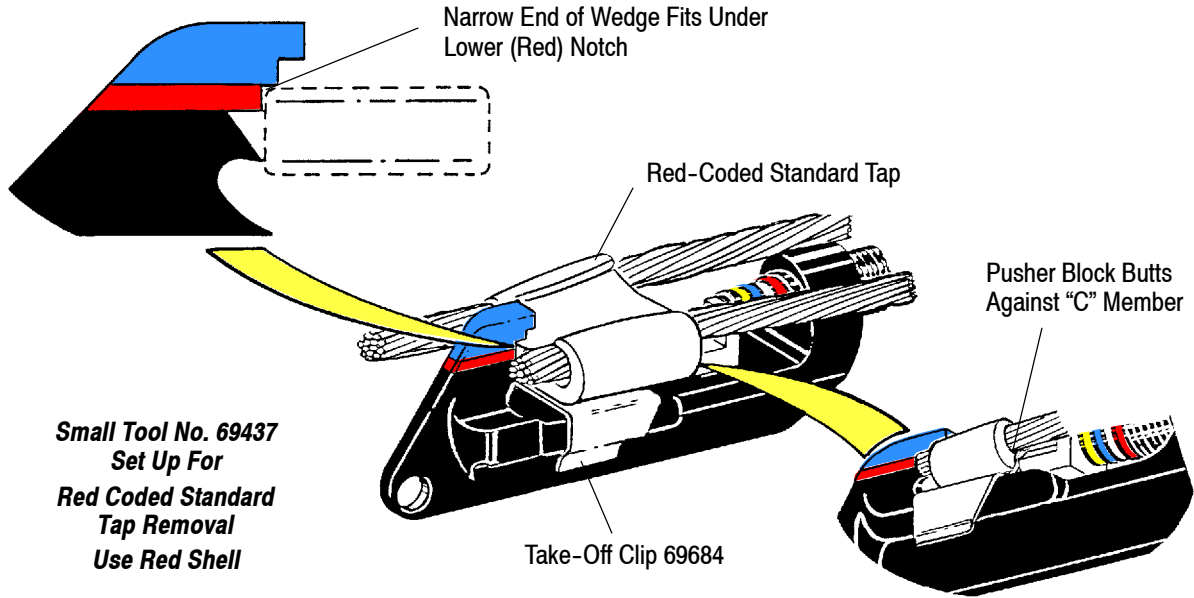

Figure 31
-  Use take-off clip No. 69684 and red shell for removal of small red coded taps. Narrow end of wedge fits under lower red notch of tool and pusher block butts against "C" member as shown in Figure 31.
1. Hook AMPACT tool over tap assembly with OPEN SIDE OF “C” MEMBER FACING AWAY FROM TOOL PLATFORM, as illustrated in Figures 31 through 34.
- Wedge must be in the proper notch of the tool head, and take-off clip must be in proper position. Refer to Figures 31 through 34.